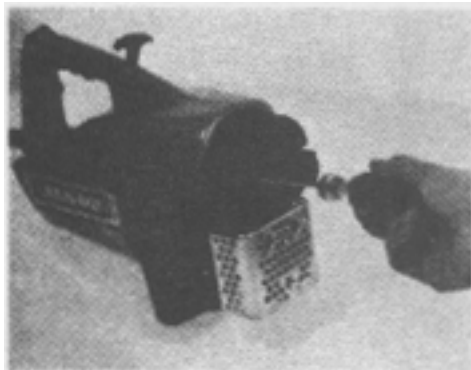

Fig. 6 — Unscrew mounting screws and remove choke cover assembly.
- 1) Remove choke cover (Fig. 6) to expose the adjustments.